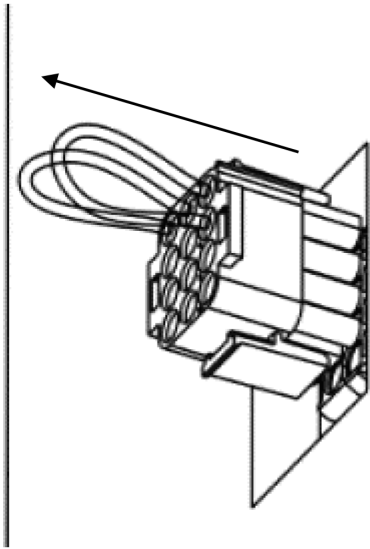

FIGURE 16 - REMOVE JUMPER PLUG
1. Remove the jumper plug from the factory installed economizer wire harness. The jumper plug is located on the partition panel in the return air compartment (see Figure 16).